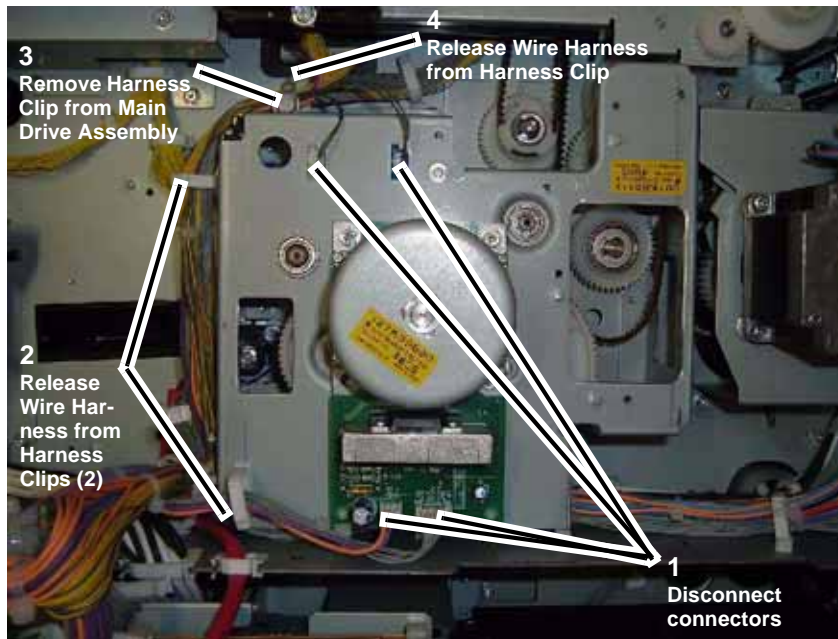

Figure 6 Disconnecting connectors and releasing Wire Harness
7. Disconnect connectors and release Wire Harness from Harness Clips (Figure 6).